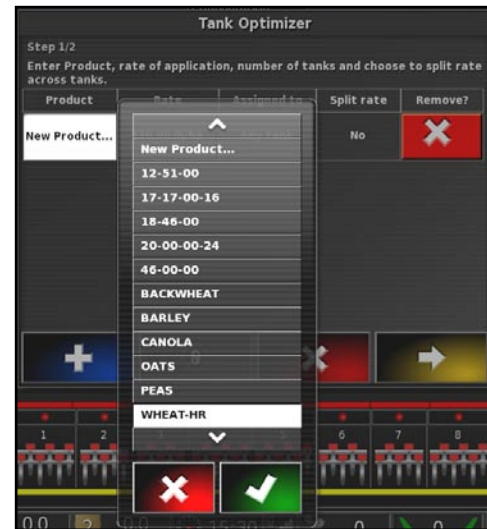

Figure 8.11 - Select Product
2. Refer to *Figure 8.11*. Under the Product column select "Please select" button. Choose product from the scroll list or select New Product to enter new (for full instruction to enter new product refer to *Section 7.1 - Adding New Product*).